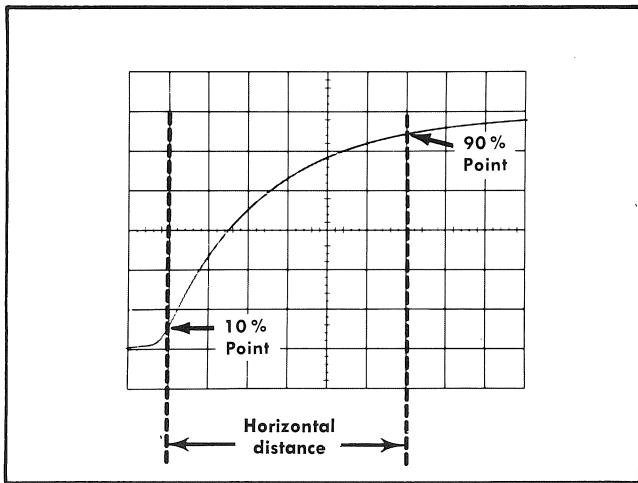

Fig. 2-17. Measuring risetime.
8. Adjust the horizontal POSITION control to move the 10% point of the waveform to the second vertical line of the graticule. For example with a six division display, the 10% point would be 0.6 division up from the start of the rising portion (see Fig. 2-17).
EXAMPLE. Assume that the horizontal distance between the 10% and 90% points is six divisions (see Fig. 2-17) and the TIME/DIV switch is set to 1 μs with the magnifier on.